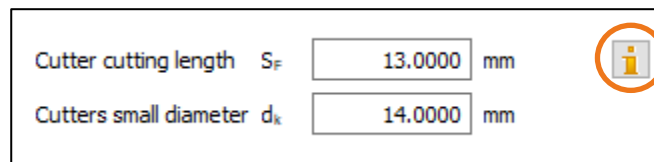

Figure 30. Inputting palloid cutter data
- The «**Face hobbing (continuing indexing method)**» manufacturing process is already selected in the «**Process**» tab. Input the «Cutter cutting length» and «Cutters small diameter» tool data. Click the information button to display a table that lists the standard palloid cutters.  However, you can also input data for special milling cutters (see Figure 30).